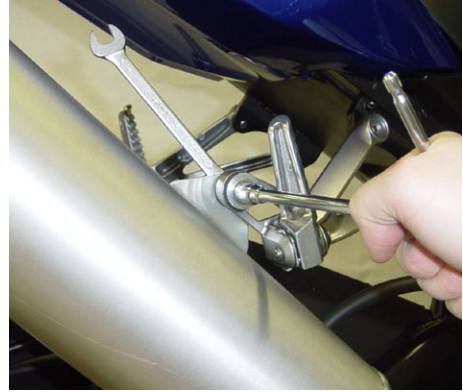

Figure 2
3. unscrew and remove the bolt for the metal muffler bracket **(Figure 2)**